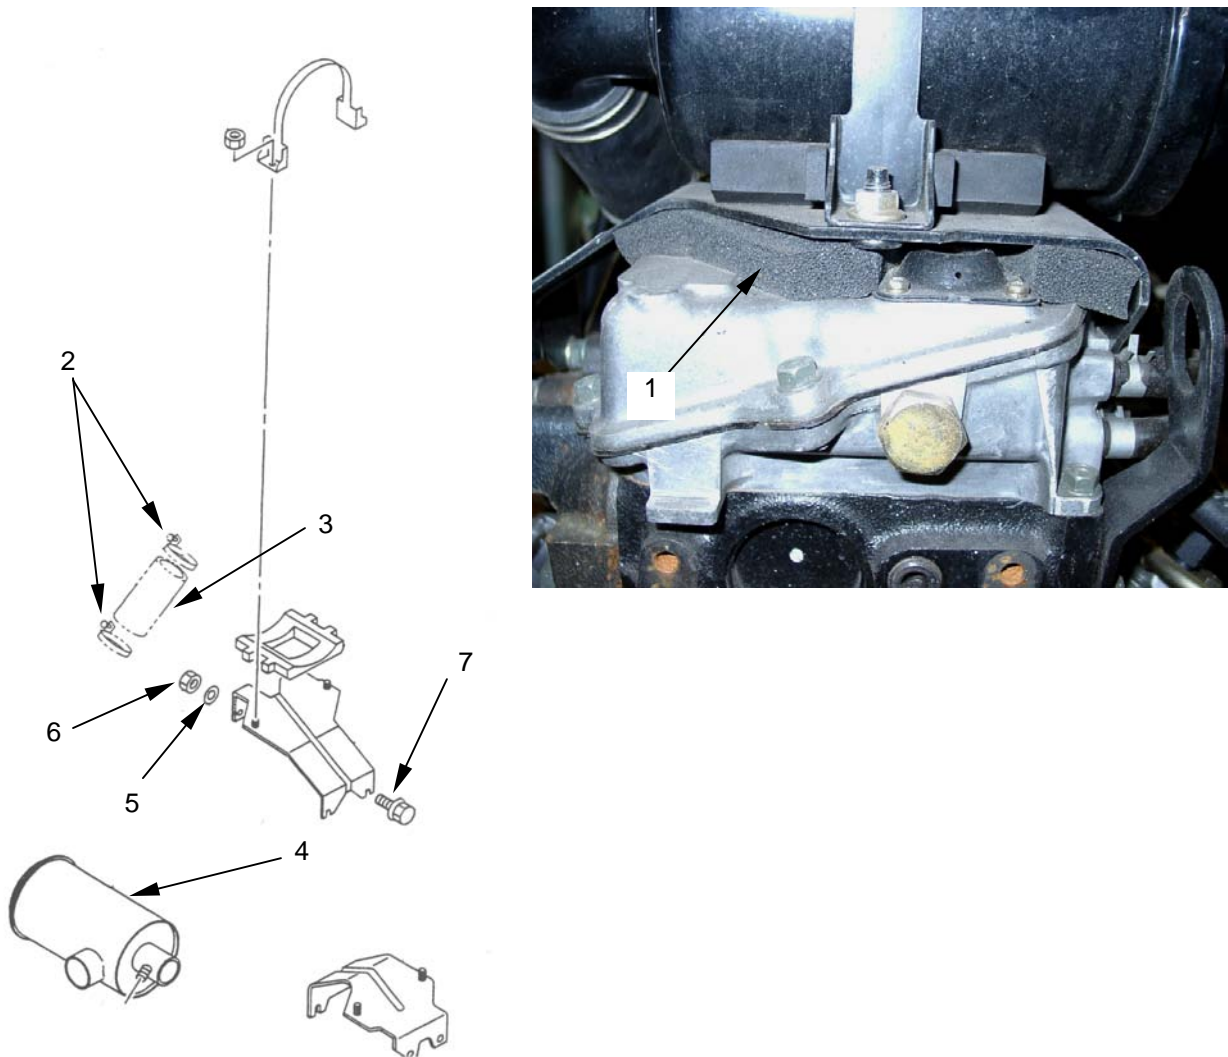

Figure 43. Air Filter
- (1) Install foam padding (**figure 43, item 1**) on top of engine cover.
- (2) Slide hose clamps (**figure 43, item 2**) over flex hose (**figure 43, item 3**).
- (3) Connect air filter assembly (**figure 43, item 4**) to engine with flex hose (**figure 43, item 3**).
- (4) Tighten hose clamps (**figure 43, item 2**).
- (5) Install lockwashers (**figure 43, item 5**) and tighten mounting bracket nuts (**figure 43, item 6**) and bolts (**figure 43, item 7**).